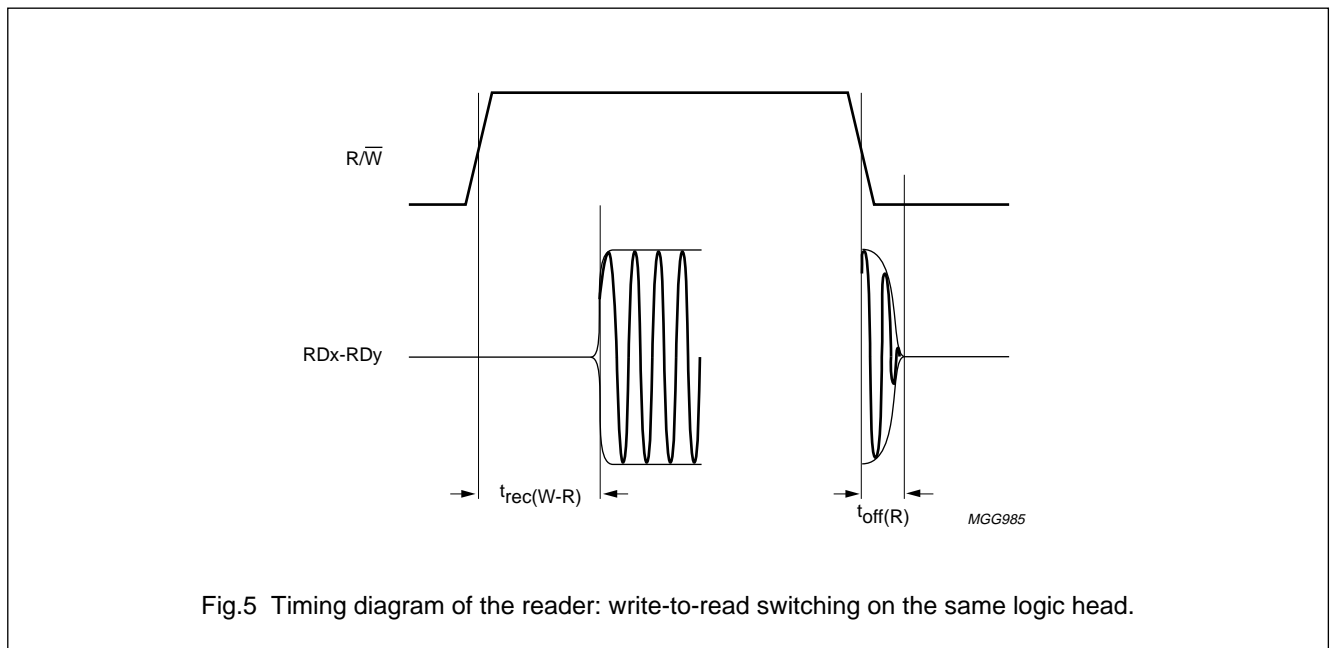

Fig.5 Timing diagram of the reader: write-to-read switching on the same logic head.
- Write-to-read recovery time includes the write mode to read mode switching using the R/W pin on the same head (see Fig.5). The AC signal reaches its full amplitude few tens of ns after appearing at the reader RDx and RDy outputs.
- In read mode, the head switching, standby to read active switching and changing MR current include fast current settling (see Fig.5). The AC signal reaches its full amplitude few tenth of ns after appearing at the reader RDx and RDy outputs.